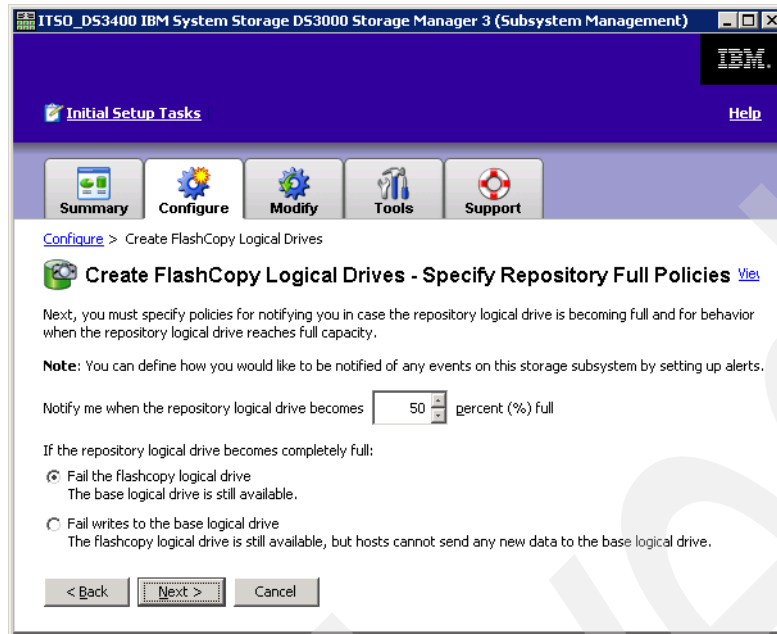

Figure 9-70 FlashCopy - Specify Repository Full Policies
- In the Specify Repository Policies window (Figure 9-70 on page 195), select which repository full policies you want to use. We described these options in “FlashCopy failure policy” on page 186. Enter the notification threshold and your choice for what to do if the repository logical drive fills and click **Next**.